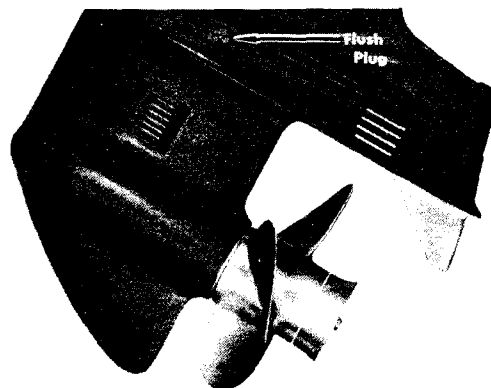

Figure 52. "Flush" Plug - 4 and 6-Cylinder and Merc 650-402-200
6. With motor in an upright position, flush cooling system by removing plug in gear housing marked "FLUSH" (beneath drive shaft trim cover on Merc 110-75-60; in right side of bottom cowl on Merc 40-39) (Figure 52 or 53), threading flushing device (C-48755A1) into hole and attaching garden hose coupling with hose. Turn on water but DO NOT OPERATE the outboard while flushing. Water flow is strong enough that flushing can be done with water pressure provided from the city water tap. DO NOT USE full water pressure.